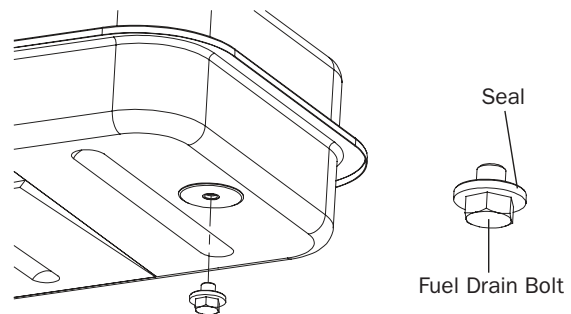

Figure 9 - Drain Plug Removal
1. Remove drain bolt from bottom of fuel tank. See Figure 9.